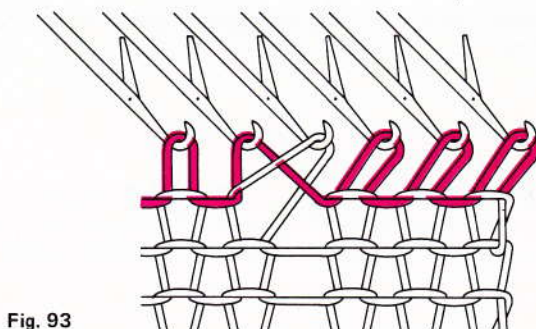

Fig. 93
- Place this loop onto empty needle (fig. 93).